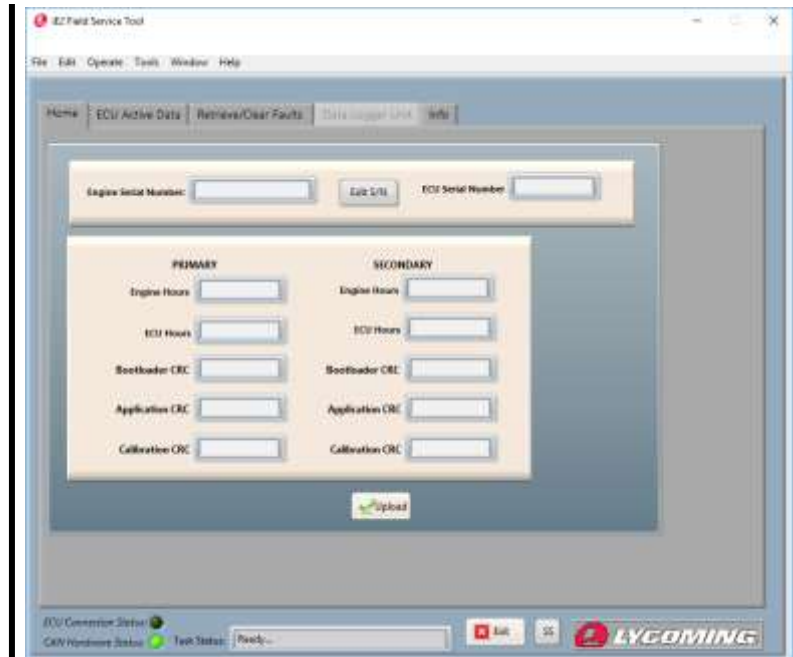

Figure C-23
3. If the Connection Status indicator in the lower left corner of the screen indicates there is no ECU Connection even though the CAN Hardware is connected (Figure C-23):